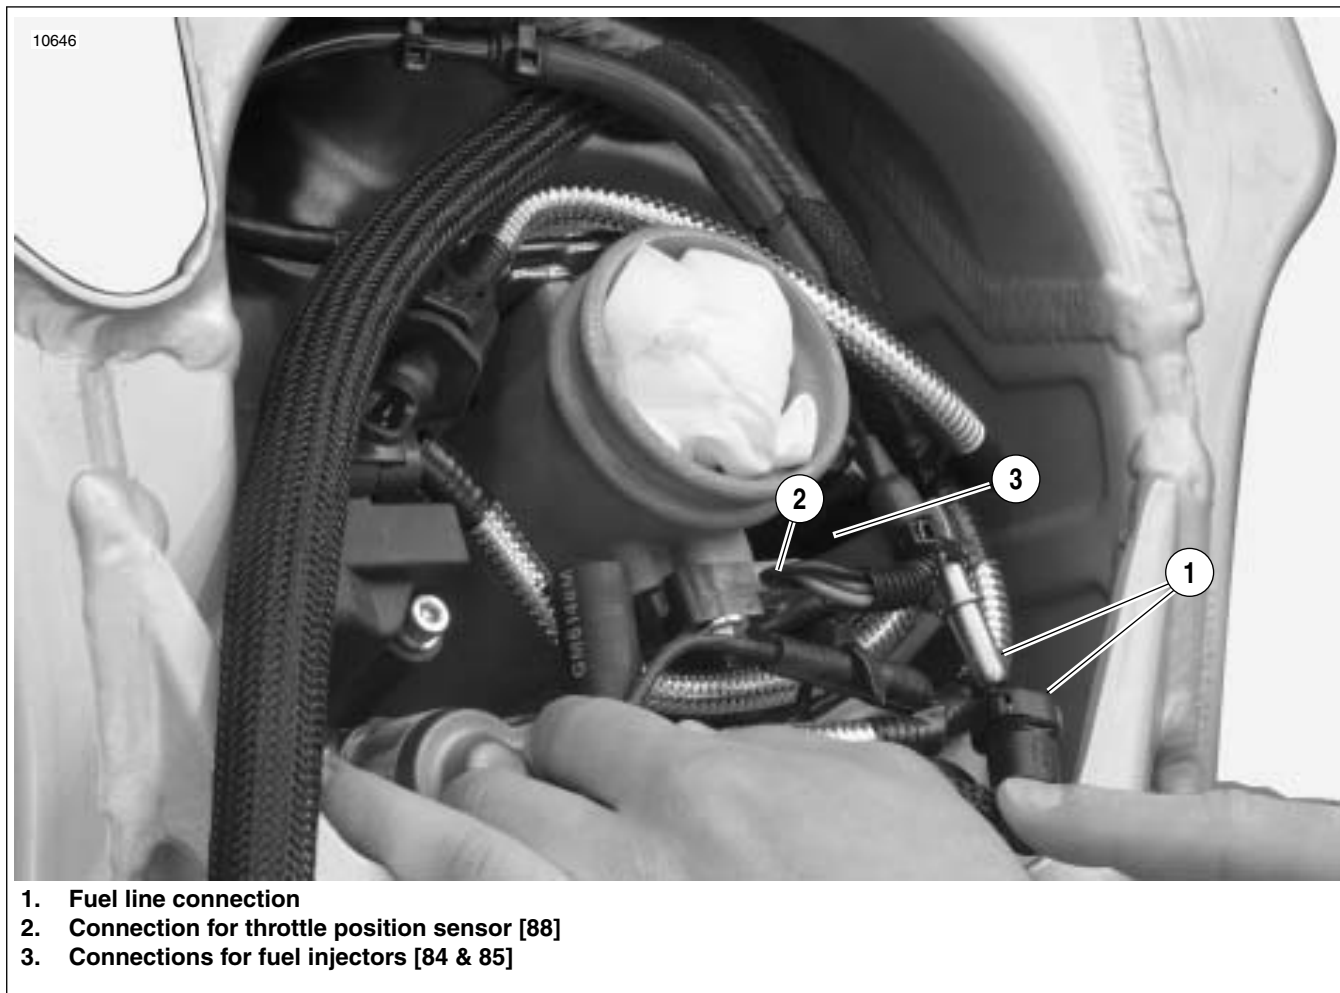

Figure 3-1 Fuel Line and DDFI Electrical Connections (Typical)
8. See Figure 3-1. Disconnect fuel line.